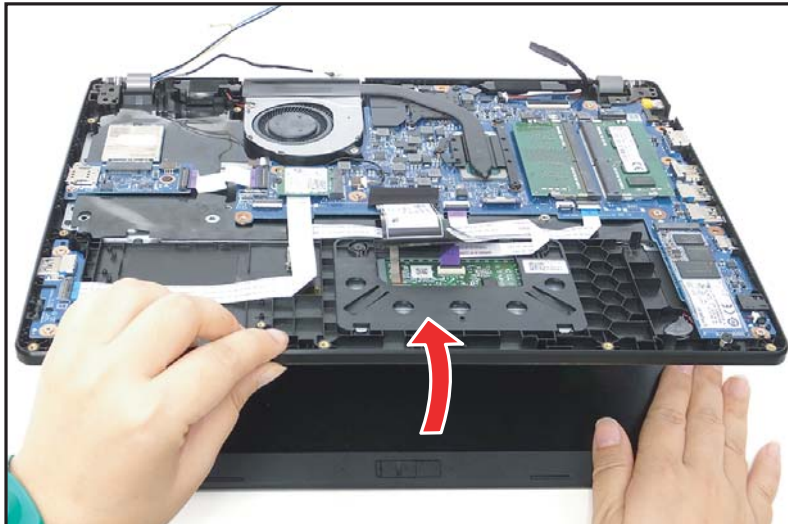

Figure 1-39. LCD Module Removal
10. Place the device on a flat surface, top assembly facing up (Figure 1-39).
11. Lift the top assembly until it is fully open (Figure 1-39).